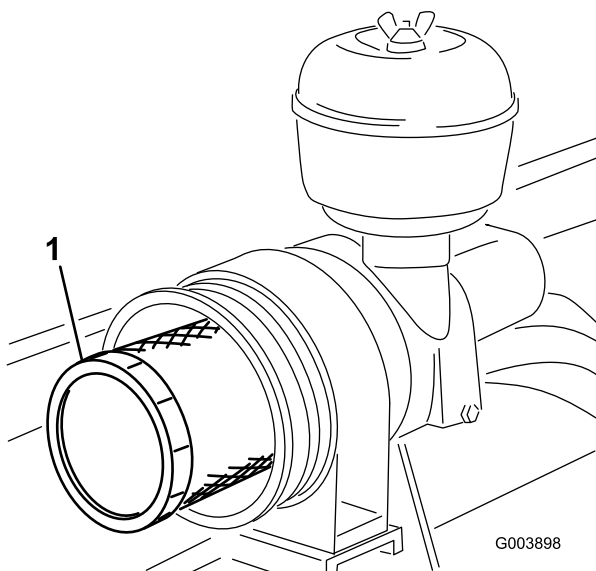

Figure 51
3. Remove and replace the primary filter (Figure 51).